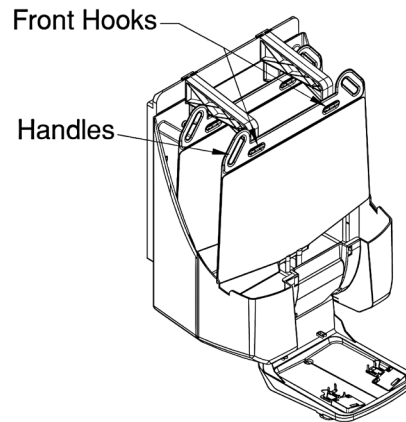

FIGURE 6
- B. Lift second Cartridge by handles provided and place on front hooks of hanger bracket (**Ref Figure 6**).